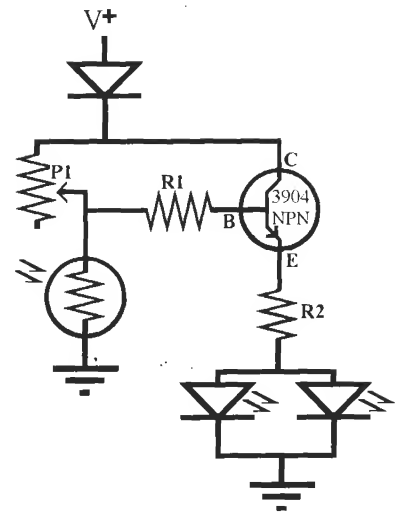
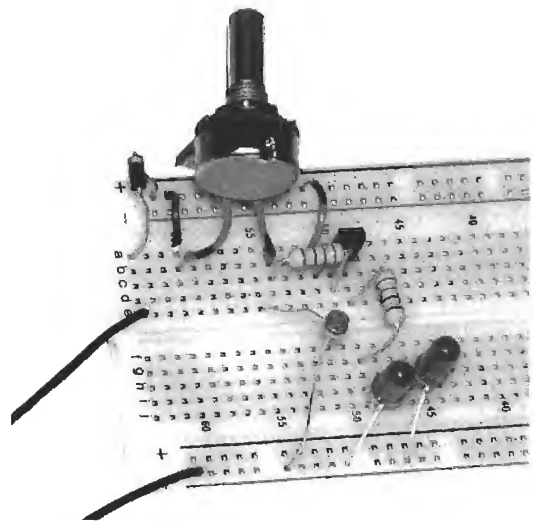

Figure L11-1
Figure L11-2
Build this circuit shown in Figure L11-1 on your breadboard. The photograph of the circuit appears in Figure L11-2 (see also Table L11-1).
**Table L11-1** Parts list for Figure L11-2